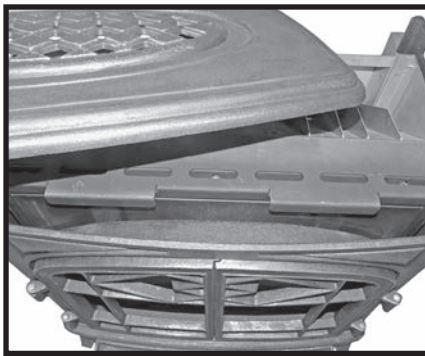

Fig. 32. Cover removal
1. Remove the top cover as shown in Fig.32. Make sure that the latticed oval panel in the center of the top-cover does not slip off as it is not fastened to the larger cover.
Return the top cover as shown in Fig.32. - page 21. Make sure that the latticed oval panel in the center of the top-cover does not slip off as it is not fastened to the larger panel.